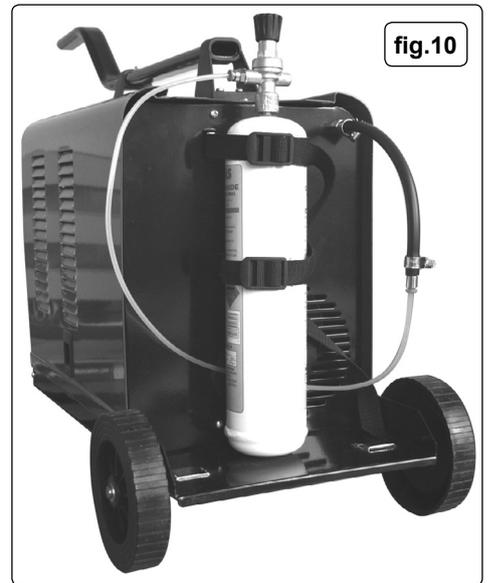

fig.10
For welding stainless steel or aluminium, this welder can be converted to a conventional mig welder. To convert to gas, order a reel of regular wire, a bottle of suitable gas, tips and nozzles and a conversion kit. Kit 120.802032 contains a regulator plus connection hoses, hose adaptor and jubilee clips (see fig.10).
- 7.5 **Mount the gas cylinder:** Strap the gas cylinder to the back of the machine. Two nylon straps are provided to hold small cylinders in place. Thread the straps through the raised metal fixing loops on the back of the welder. Stand the gas cylinder on the rear platform and fix the straps around it as shown in fig.10.
- 7.6 **Connect gas cylinder to welder gas input.** (Kit 120.802032) Push the small adaptor into one end of the larger diameter hose. Push the other end of the hose onto the ribbed gas input connector on the back of the welder. Secure both ends of the hose with the jubilee clips provided. Push one end of the smaller diameter gas hose into the open end of the adaptor and push the other end into the regulator outlet, it will seal automatically. See fig10. To release the gas hose, press the collet inwards on the quick couplers and pull the hose out.